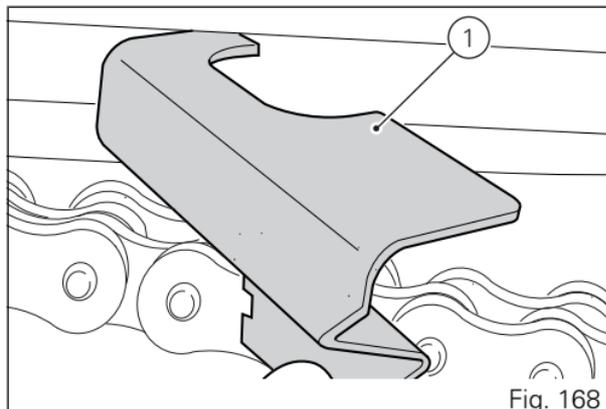

Fig. 168
The chain tensioning gauge (1) must be inserted between the swingarm and the lower chain slider in correspondence of the slider central fixing point (Fig. 168).